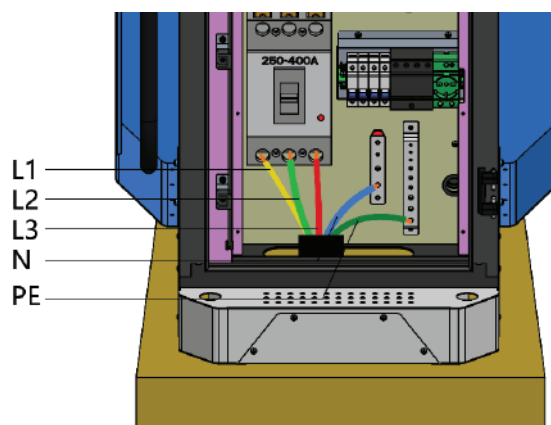

Figure 5.12
- Connect L1, L2, L3, N, PE wires to the circuit breaker, and use No. 8 socket wrench  to secure the screws. See Figure 5.12